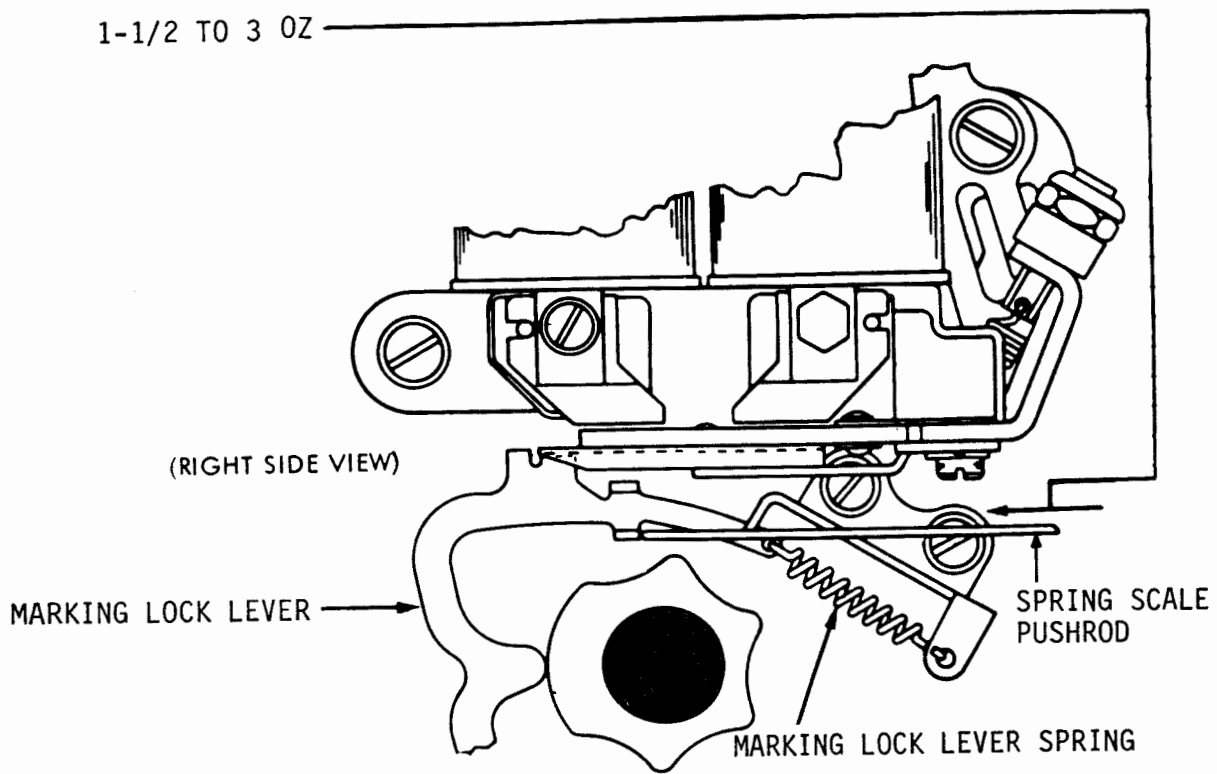
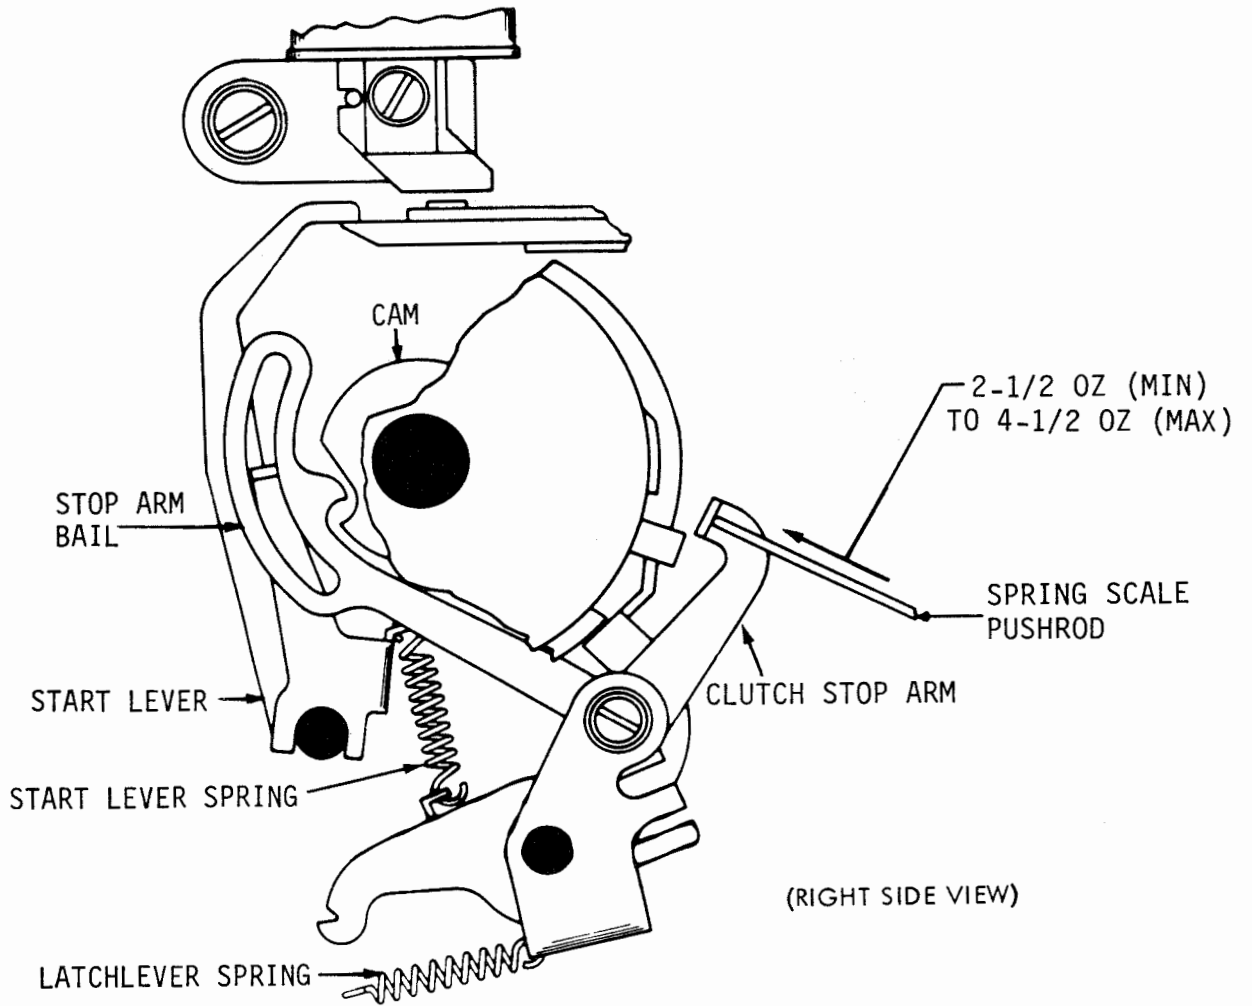

Figure 6-67. Marking Lock Lever Spring
Figure 6-68. Start Lever Spring
(1) Marking Lock Lever Spring. Adjust marking lock lever spring as follows:
- (a) Refer to figure 6-67.
(2) Start Lever Spring. Adjust start lever spring as follows:
- (a) Refer to figure 6-68.